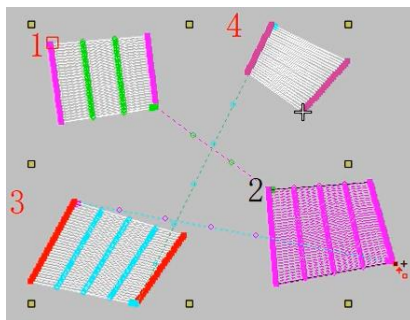

Figure 1
2. Click on "Smart Connection" with the left mouse button, as shown in Figure 2, and use the Smart Connection tool to point 2 points on the object (as shown in Figure 1). The effect of smart connection (as shown in Figure 2).